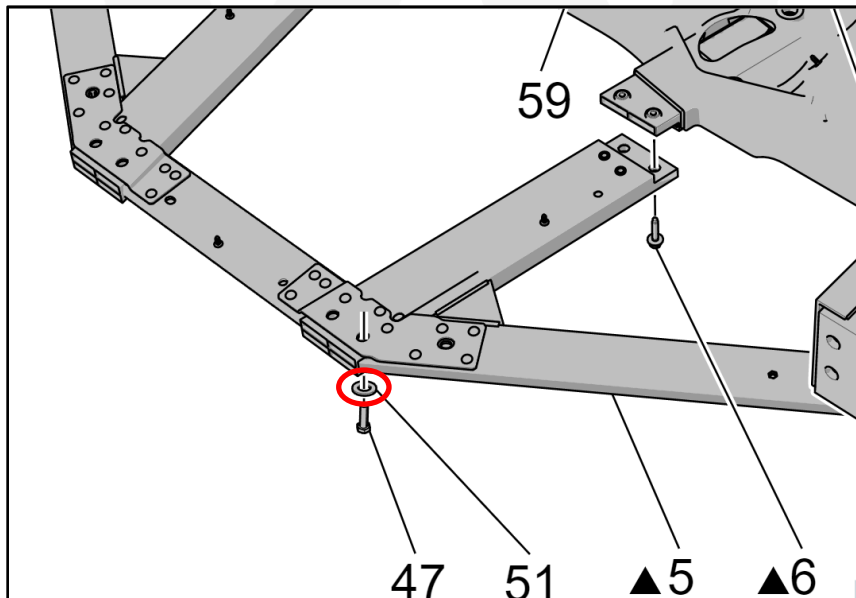

Figure 2
4. Remove one screw at a time from the frame and insert one washer for each screw (one washer per screw) (**Figure 2**). Reinstall the screw and torque it to **50Nm** (36.9 ft-lb).